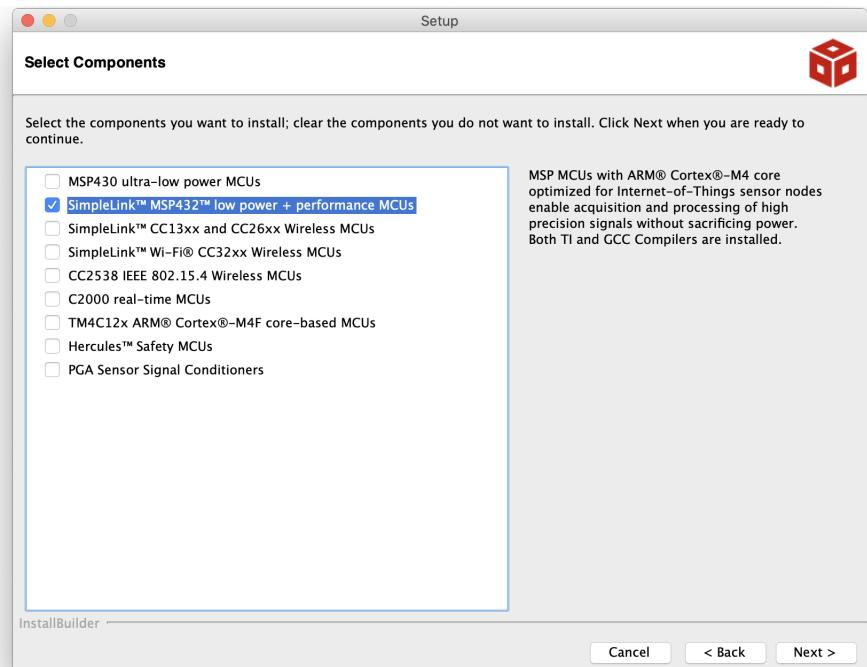

Figure 3: Processor Support installation step.
**Note:** For the “Processor Support” installation step, you only need to select “*SimpleLink MSP432 low power + performance MCUs*” product family to be installed on your computer (as shown in Figure 3).